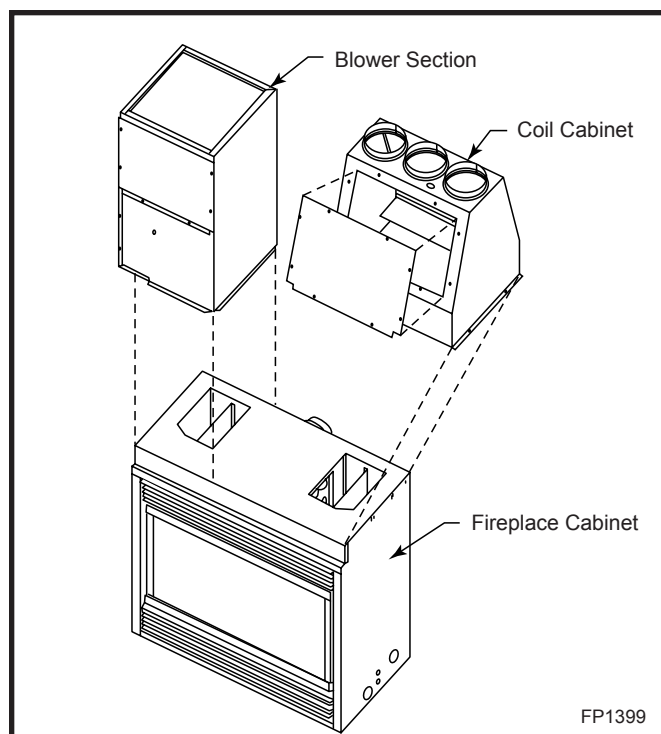

Fig. 3 DVHVAC36 unit assembly.
1. Place the air circulating blower section onto the left side of the fireplace cabinet. (Fig. 3)
7. Place the coil cabinet section onto the right side of the fireplace cabinet so the access panel faces the front of the unit. (Fig. 3) Remove the access panel and secure the coil cabinet to the fireplace cabinet using 8 of the #8 screws provided.